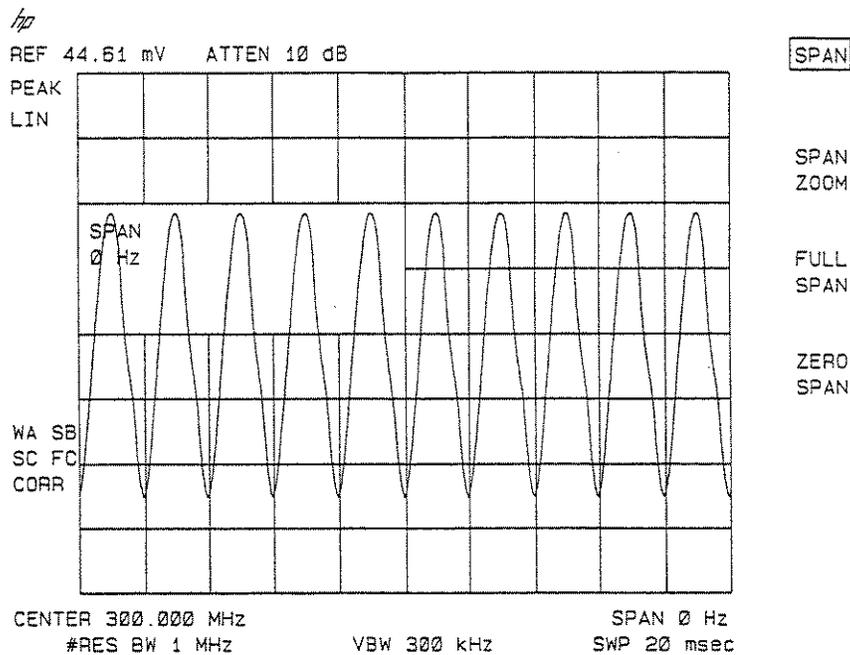

Figure 2-27. Measuring Modulation In Zero Span
5. To select zero span, either press **[SPAN]**, 0 **[Hz]** or press **[ZERO SPAN]**. See Figure 2-27. If the modulation is a steady tone (for example, from a signal generator), use video trigger to trigger on the waveform and stabilize the display. Adjust the sweep time to change the horizontal scale.